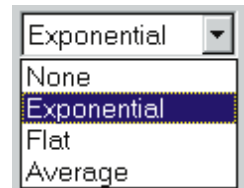

Figure 17-27 Settling Algorithm Selections
If the **Exponential** algorithm is selected, the newest reading (N) must agree with the immediately preceding reading (N-1) within the Tolerance value, with the reading before (N-2) that within twice the Tolerance value, with the reading before that (N-3) within four times the Tolerance value, etc. Figure 17-27 shows the “envelope” within which a succession of readings must fit if Tolerance is set to 1%. Exponential is the recommended settling algorithm for most audio applications, since typical device transients tend to die away in an exponential fashion. Exponential thus will usually provide repeatable results to the Tolerance acceptable to the user in the minimum length of time.